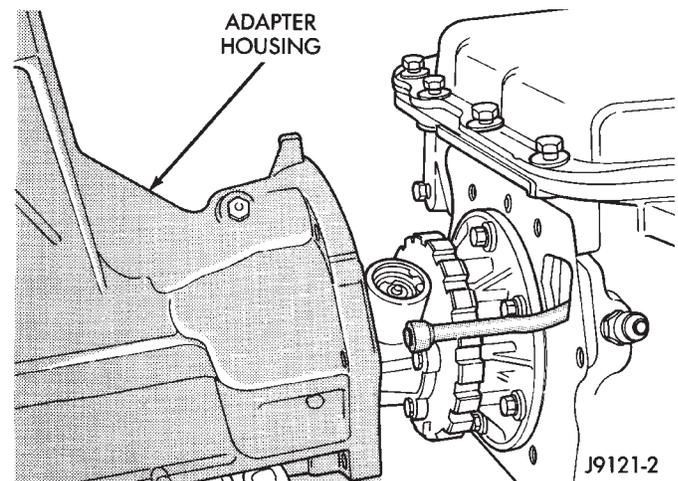
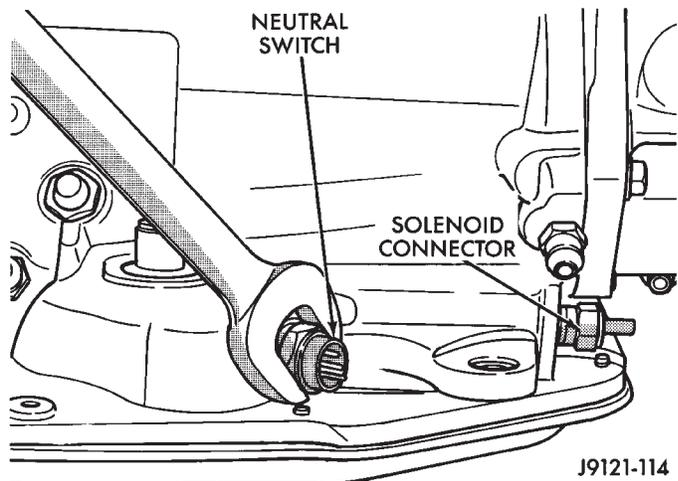

Fig. 2 Adapter Housing Removal/Installation (4 x 4 Models)
Fig. 3 Park/Neutral Position Switch Removal/Installation
- (4) Remove nuts attaching adapter, or extension housing to transmission case.
- (5) Remove adapter/extension housing and gasket (Fig. 2).
- (6) Remove rear bearing and snap ring, if equipped.
- (7) Remove park/neutral position switch and seal (Fig. 3).